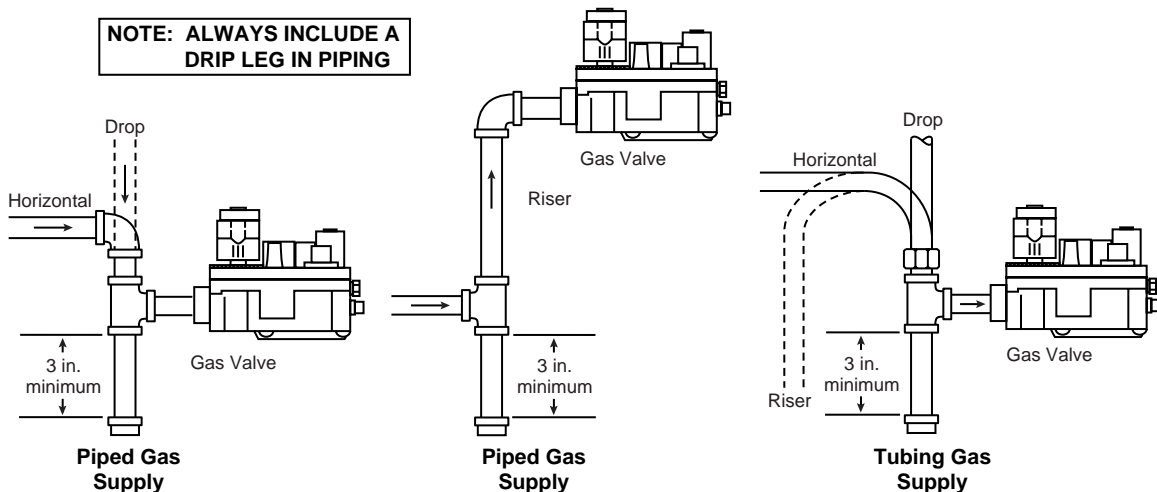

Figure 3. Typical gas valve piping
5. Apply pipe joint compound (pipe dope) or teflon tape **that is approved for all gases, only to the male threads of the pipe joints. DO NOT** apply compound or teflon tape to the first two threads (see fig. 3 for typical piping connections).